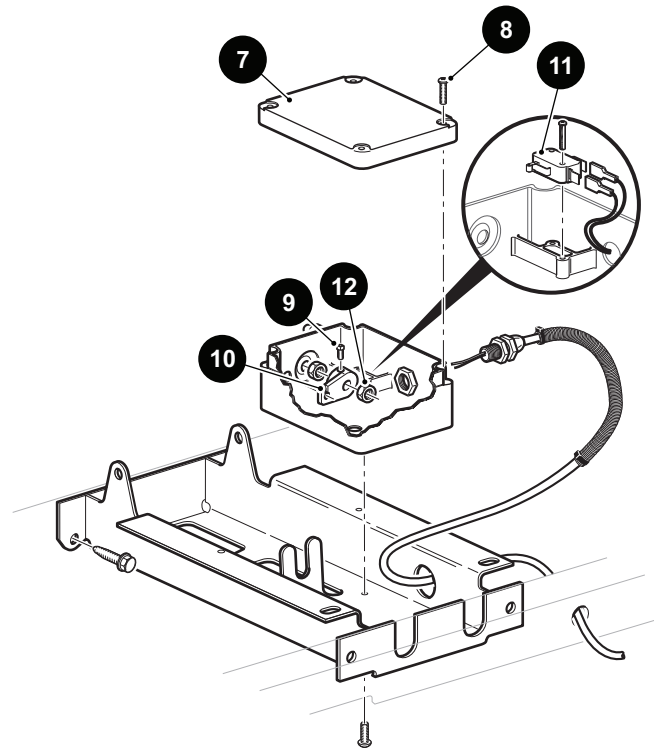

**Fig. 7 Accelerator Pedal Arm Adjustment**
Confirm the accelerator pedal arm (1) contacts the accelerator pedal bracket (2) when in the released position (Ref. Fig. 7). If there is no contact, loosen the jam nut (3) and rotate the rod (4) until contact is made.